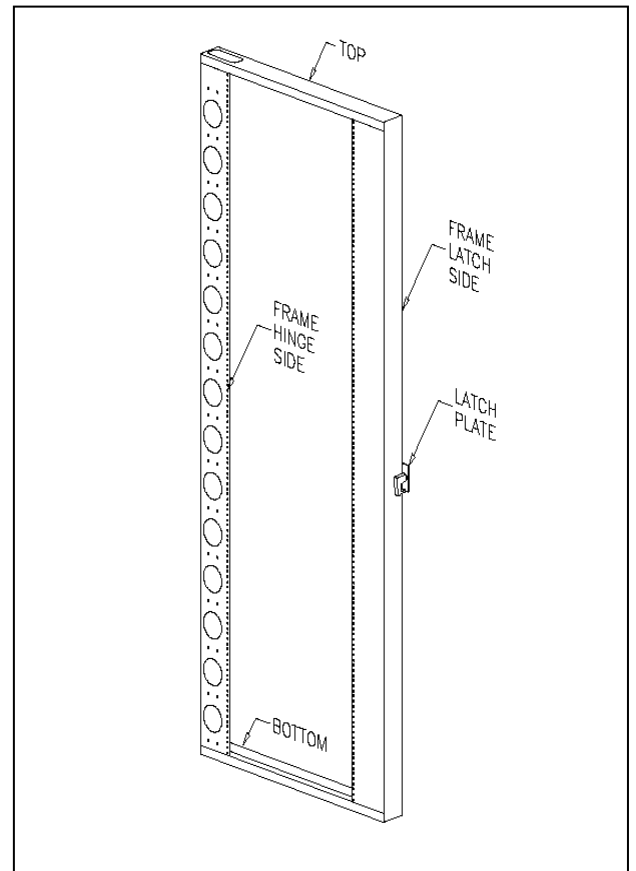

Figure 5
1. Position hinge side vertical channel (433-2623) on the floor so that this piece is on the same side as the hinge side vertical channel of the Stationary Frame assembled in Part A. Position the latch side vertical channel (433-2624) on the opposite side of (433-2623). Position the frame top (433-2625) over the flanges of the two vertical channels. NOTE: The frame top is determined by whether the frame is hinged left or right swing. Verify the cutout in the frame top is on the same side as the hinge side channel (433-2623). Loosely install four each of the 1/4-20 x 1/2" whiz bolts in each vertical channel. See Figure 5.
2. Install the caster into the weld nut from the side opposite the flanges. Position the frame bottom (433-2626) over the flanges of the two vertical channels with the cutout on the same side as the hinge side channel. Loosely install four each of the 1/4-20 x 1/2" whiz bolts in each vertical channel. See Figure 5.
3. Using a square, adjust each vertical channel to the bottom frame channel and tighten the two 1/4-20 x 1/2" whiz bolts. Repeat the same operation at the top. Flip the frame and tighten the remaining (8) 1/4-20 x 1/2" whiz bolts.
4. Attach the latch plate (433-2692) on the latch side channel with (2) 10-32 x 3/8 PPH screws.
5. Attach the three hinges (433-0525) to the hinge side channel of the above assembly by inserting the studs in the hinge from the outside of the channel and installing (6) 1/4-20 kep nuts. Tighten all the hinge nuts.
6. Stand the above assembly next to the stationary assembly that has already been bolted to the floor. NOTE: The swing frame mounts on the side of the stationary frame with the notched mounting foot. Install the studs on the hinges into the stationary frame and tighten with (6) 1/4-20 kep nuts.